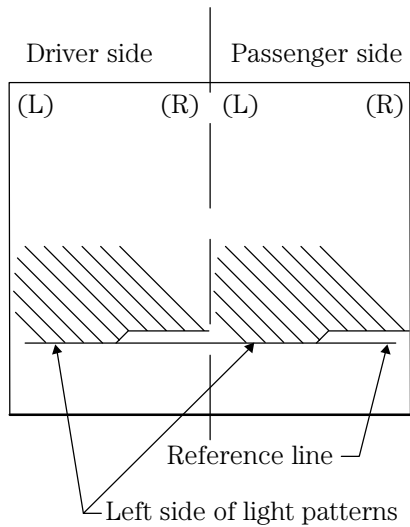

Fig. 1
- Your headlamps are marked VOL [visual/optical (aiming) left]. This means that the left side of the light patterns for each low beam headlamp is used to aim the lamp (Fig. 1).
- A screen or wall with a reference line (as described below) is needed in order to adjust the vertical position of each lamp's light pattern cut-off line. The cut-off line is the line formed between the bright lower portion and the dark upper portion of each lamp's light pattern. (Fig. 1).
5. Turn on the low beam headlamps. Notice that both the driver's side lamp and the passenger's side lamp create similar light patterns on the wall (see Fig. 1). If the left side of the cut-off line of either lamp is above or below the reference line on the wall, the vertical aim of that lamp requires adjusting.
6. On the lamp requiring adjustment, turn the adjusting screw marked with V1 in the desired direction (up or down). The vertical aim is correct when the horizontal cut-off line on the left side of the lamp's light pattern is vertically lined up with the horizontal reference line on the screen as shown in Fig. 1.